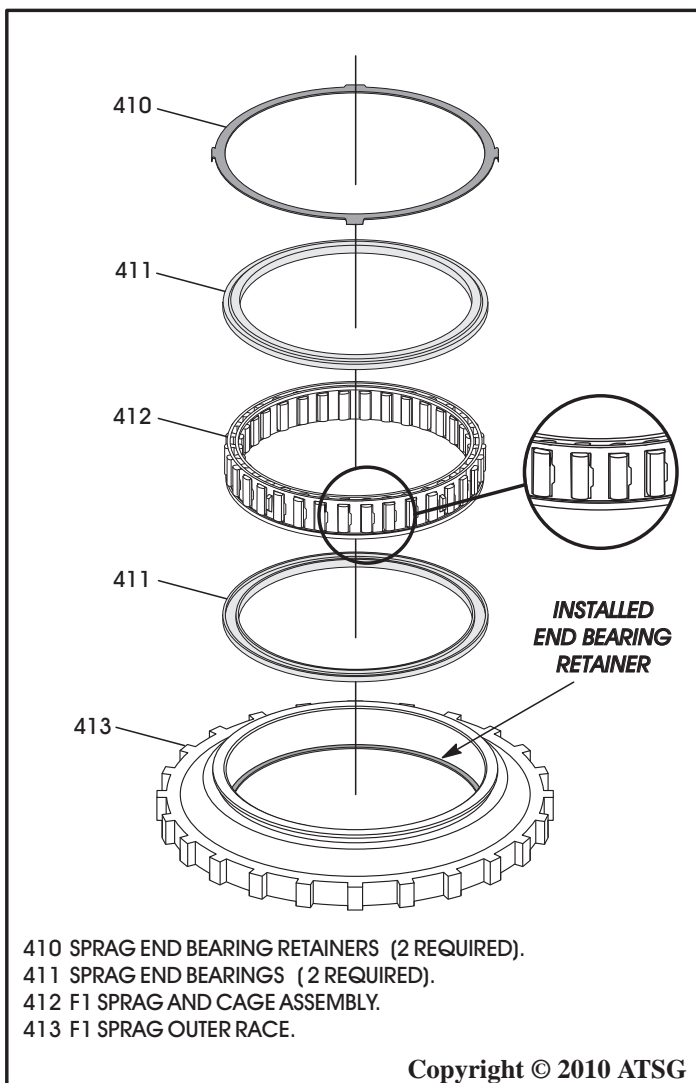

Figure 110
5. Turn the outer race and retainer over, as shown in Figure 110, and install sprag end bearing with groove facing up.
6. Install the F1 sprag assembly with lip facing down and "windows" to the right, as shown in Figure 110.
7. Install the second end bearing with the groove facing down, as shown in Figure 110.
8. Install the second end bearing retainer, as shown in Figure 110, by snapping into place and ensure that it is fully seated.